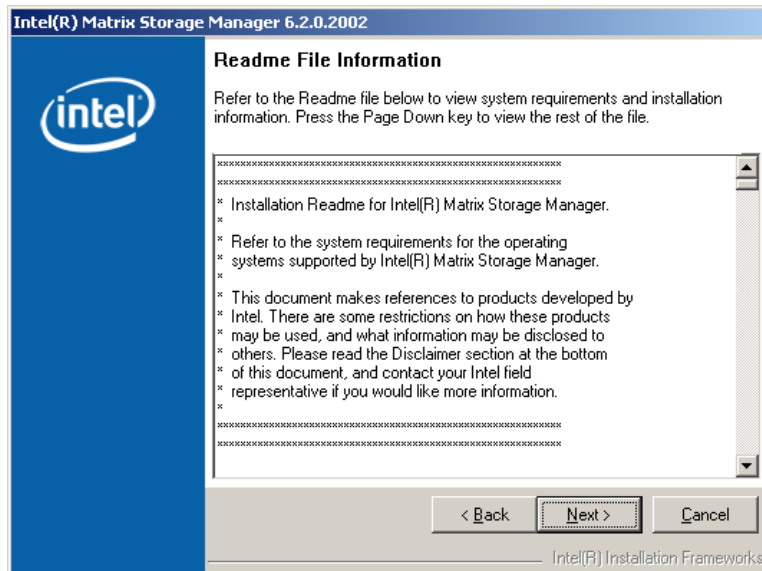

Figure 6-45: Matrix Storage Manager Readme File
Step 10: Read the license agreement. To accept the terms and conditions stipulated in the license agreement shown, click **YES** and the Readme information file shown in **Figure 6-45** appears.